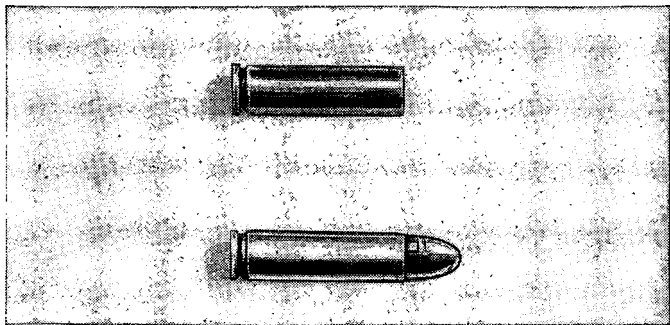

FIGURE 13.—Cartridge and cartridge case, carbine, caliber .30, M1.
■ 38. CARTRIDGE, CARBINE, CALIBER .30, M1.—The approximate maximum range for the cartridge is 2,000 yards. Its muzzle velocity is 1,900 feet per second. It is illustrated in figure 13.